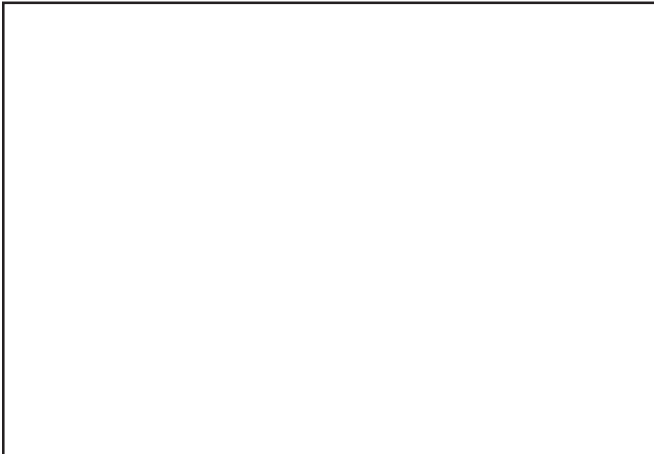

FIGURE 1 - FULL-ELECTRIC BED - 5410
1. Grasp the connector and position it so the locking tab is facing **DOWNWARD** (FIGURE 1).
2. Gently, push the connector into the appropriate slot on the junction box until it locks into place and an audible “click” is heard (FIGURE 1).
1. Push down on the end of the locking tab on the connector (FIGURE 1).
FULL-ELECTRIC AND BARIATRIC BED OPERATION (FIGURE 1)